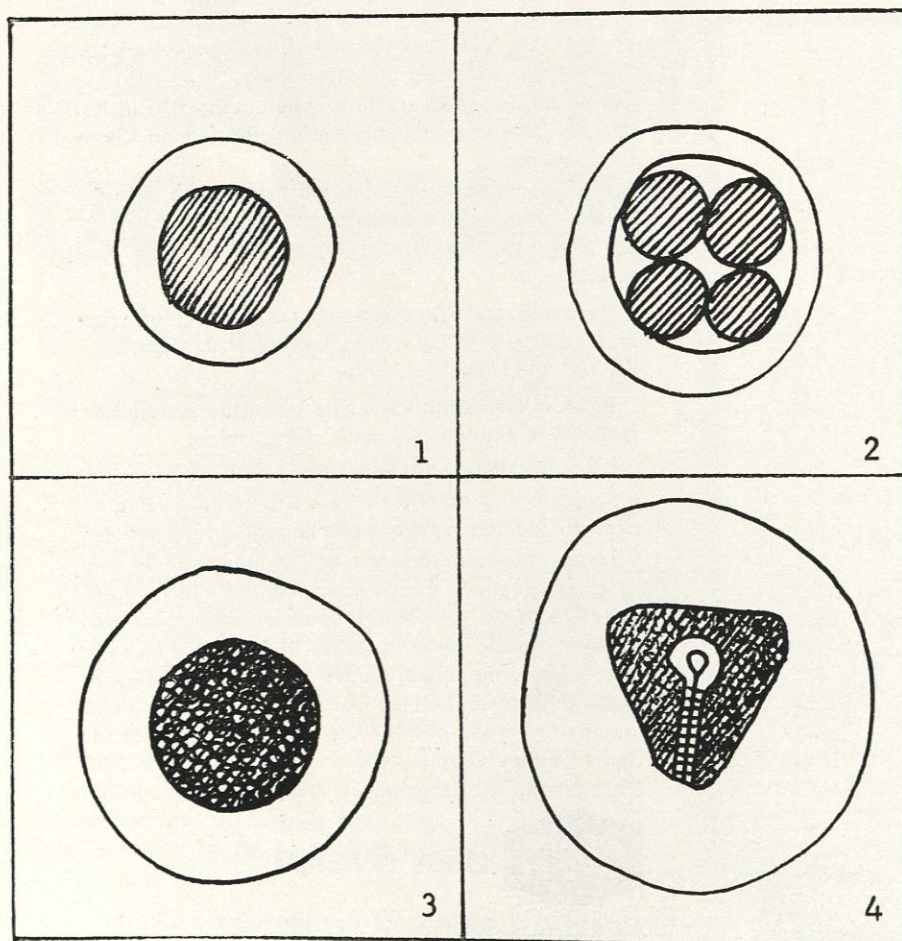

FIGURE 9: DEVELOPMENT OF A TYPICAL VERTEBRATE EMBRYO.
The normal development of a typical vertebrate embryo is diagrammed in Figure 9. Beginning as a single cell (1), it goes through a process of cleavage (2). After a large number of cleavages, a large spherical mass of cells has been formed (3). At this time, a small area on one side of the ball, called the blastocyst, begins to develop. It is at first circular in shape and then becomes more triangular, forming the so-called primitive streak, the beginning of the central nervous system. Following this, the embryo begins to take on a definite shape, at the same time forming somites, the small rows of circles, along the primitive streak, suggesting the beginnings of the vertebrae of the backbone (4). It would be desirable to destroy certain parts of this formation at various stages of its formation. Unfortunately, in the case of the rabbit ova, there are problems. The cells of the rabbit ova are almost completely transparent, and in their normal state they will not